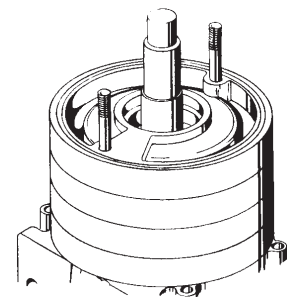

Figure 4-9
14. To complete the second stage assembly, install a right hand channel ring (#9) facing downward toward the impeller.(refer to figure 4-9) The small discharge opening should be in the "seven o'clock" position.